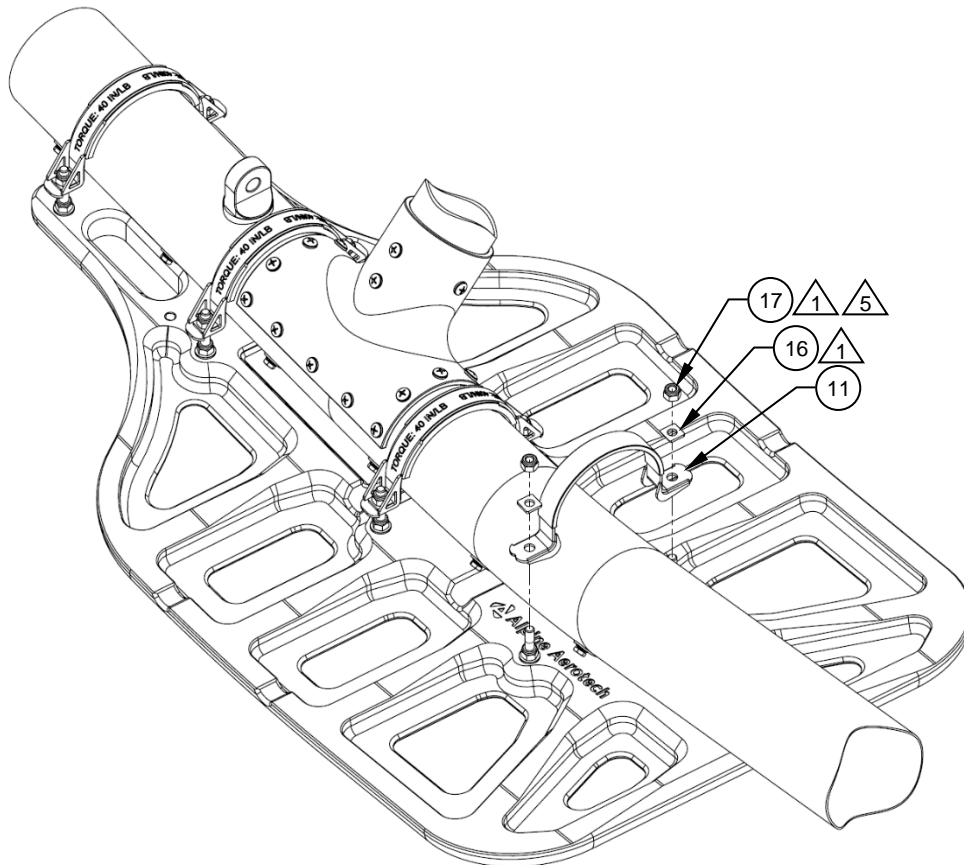

Figure 9
3. Install the AFT Strap, Assy (Item 11). The Strap, Assy may need to be bent slightly to fit it over the tube. Reference Figure 9.